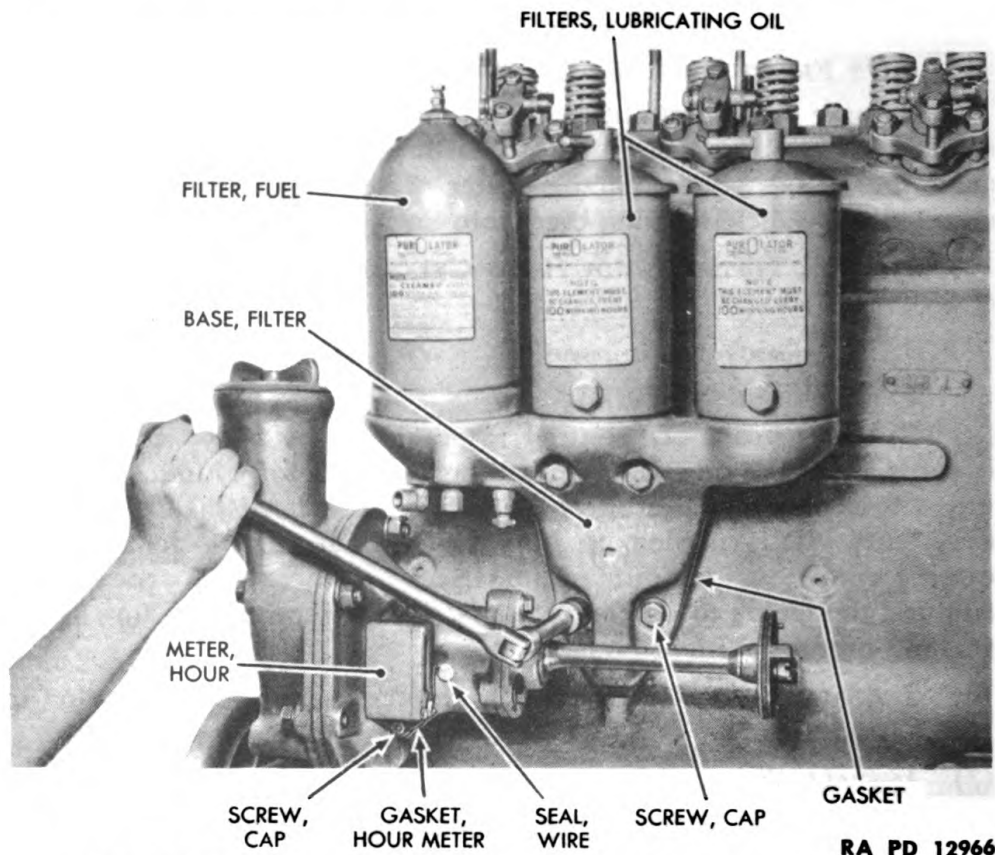

Figure 171—Installing Fuel Filter and Lubricating Oil Filters
(2) **INSTALL HOUR METER** (fig. 171).
174. LUBRICATING OIL FILTERS AND FUEL FILTER INSTALLATION (fig. 171).